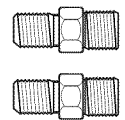

Fig. 16
- Always use the (2) new flare adapters (1/2" NPT x 3/4" or 1/2" I.D.) supplied with the new flexible appliance conduit for connection of the range (Fig. 16).